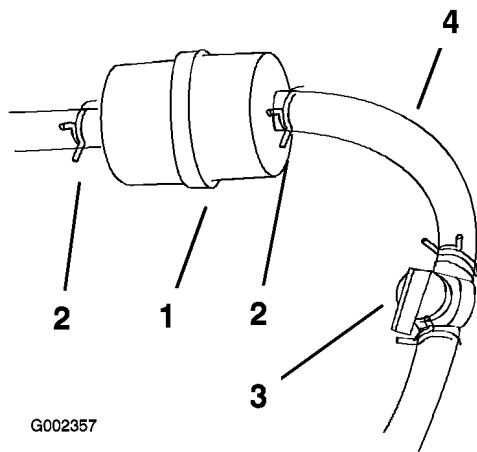

Figure 38
3. Grease the fittings on the 3 spindle bearings (Fig. 38).
- Grease the idler pulley pivot (Fig. 38).
4. Close the fuel shutoff valve (Figure 38).
5. Squeeze the ends of the hose clamps together and slide them away from the filter (Figure 38).
7. Install a new filter and move the hose clamps close to the filter (Figure 38).
3. Close the fuel shutoff valve (Figure 38).
4. Loosen the hose clamp at the fuel filter and slide it up the fuel line away from the fuel filter (Figure 38).
5. Disconnect the fuel line from the fuel filter (Figure 38).
Note: Allow gasoline to drain into a fuel container can or drain pan (Figure 38).
7. Install the fuel line onto the fuel filter. Slide the hose clamp close to the fuel filter to secure the fuel line (Figure 38).